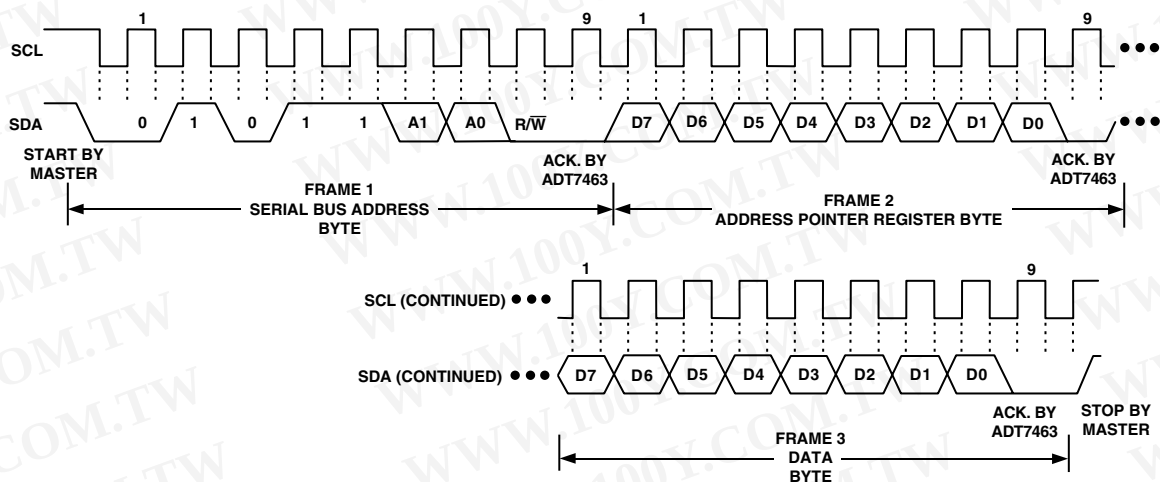

Figure 7. Writing a Register Address to the Address Pointer Register, Then Writing Data to the Selected Register
This is illustrated in Figure 7. The device address is sent over the bus followed by $R/\overline{W}$ being set to 0. This is followed by two data bytes. The first data byte is the address of the internal data register to be written to, which is stored in the address pointer register. The second data byte is the data to be written to the internal data register.
2. In Figures 7 to 9, the serial bus address is shown as the default value 01011(A1)(A0), where A1 and A0 are set by the address select mode function previously defined.